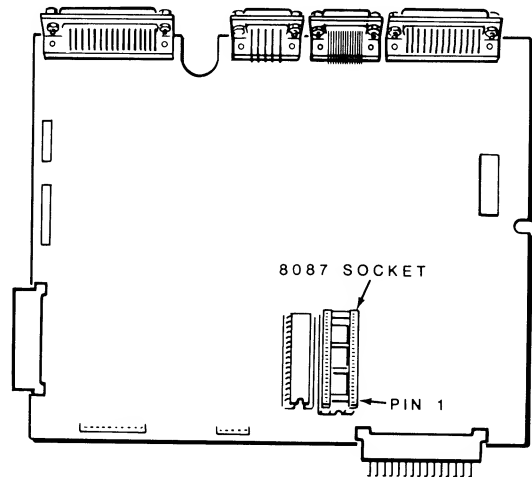

Figure 18-3. The Main Board
2. Refer to Figure 18-3 and position the main board as shown. Note the socket into which the 8087 is to be installed.